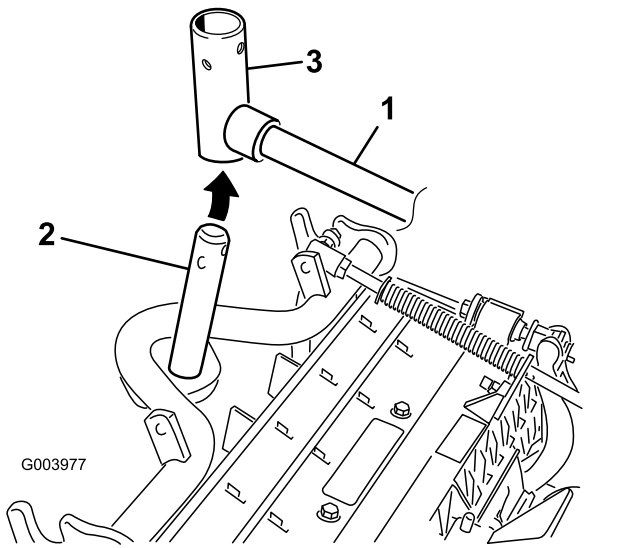

Figure 8
7. For the front cutting units, slide a cutting unit under the lift arm while inserting the carrier-frame shaft up into the lift-arm-pivot yoke (Figure 8).
- B. Insert the lift-arm yoke onto the carrier-frame shaft (Figure 8).